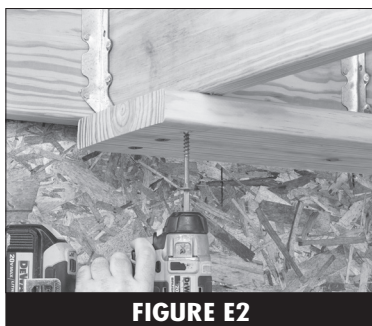

FIGURE E2
3. Install a piece of 2x8 blocking to the underside of the two joists where the stud falls between using (6) 4-1/2" HeadLOK or (6) 5" FlatLOK Fasteners. **(Figure E2)**